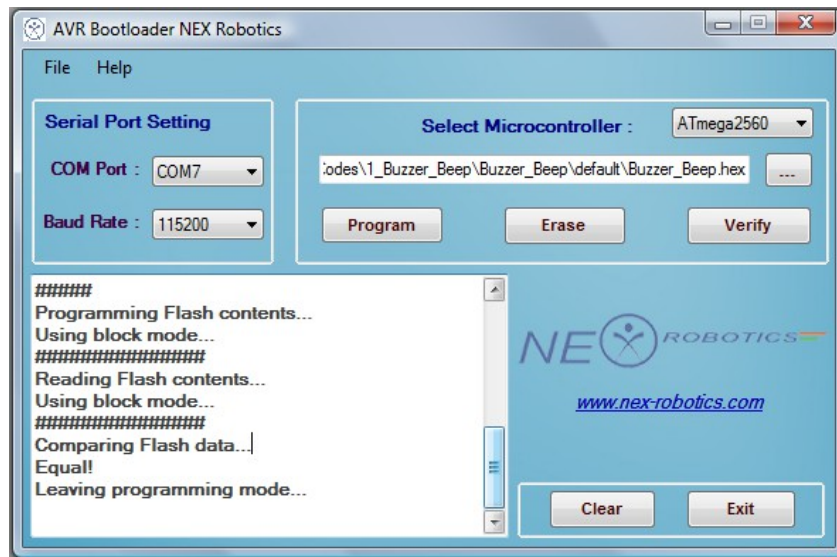

Figure 20
2. Press program button on the GUI to load the .hex file. You can see the activity on the TX and RX LEDs of the FT232 USB to Serial Converter (if used) Figure 20 shows the comments in the message box after successfully programming the ATMEGA2560 microcontroller.